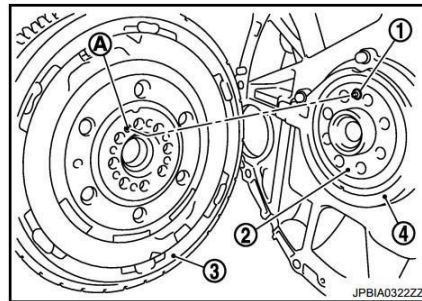

Figure 3
24. Reinstall flywheel to backside of engine as outlined in the Nissan FSM. Ensure flywheel is properly aligned with factory timing dial pin in accordance with *Figure 3*. Torque flywheel in typical star pattern as outlined in the Nissan FSM to 65ft-lbs.